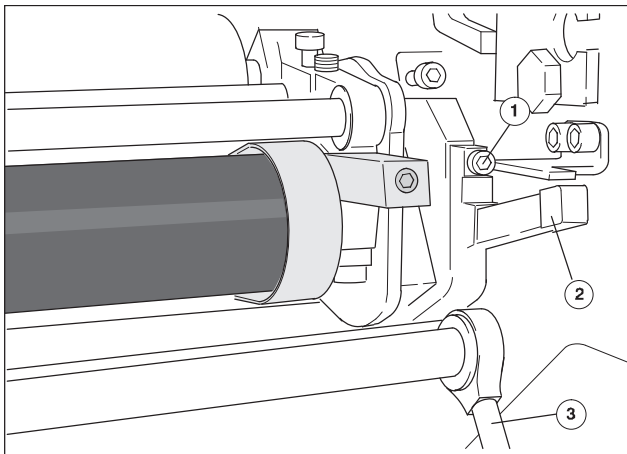

Fig. 40 Removing the dampening system
4. Unscrew the screws at the swiveling levers on D.S. (Fig. 40/1) and O.S. using the operator tool. The screws remain in the swiveling lever.
5. Fold the swiveling levers (Fig. 40/2) on both sides downwards.